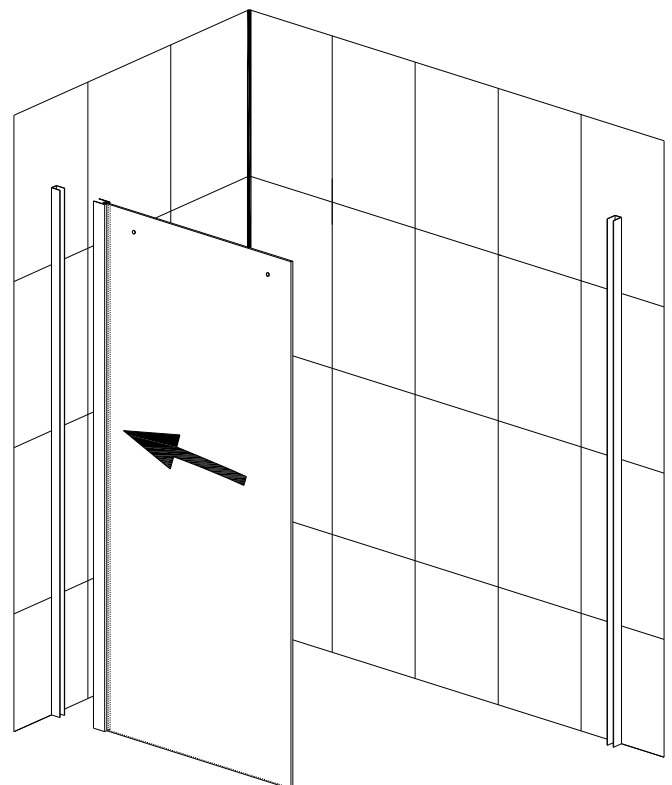

FIG. 4
- 4) Connect the front fixed glass door (11) with left wall connecting profile. As Fig. 4